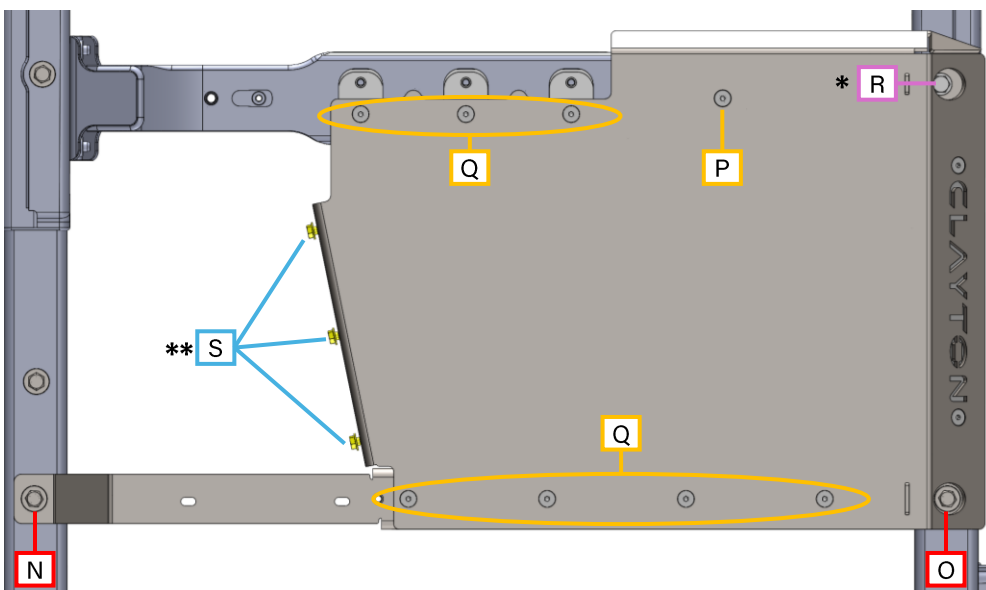

Figure 41 : bolt callouts on transfer case skid plate
34. Proceed with Table 2 while referencing Figure 41. Tighten the transfer case skid plate hardware to the following specification. **Pay attention to the \* notes at the bottom of the page.**